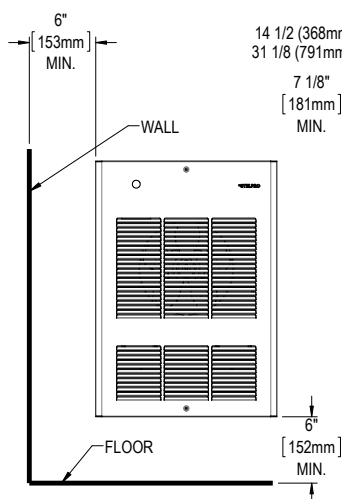
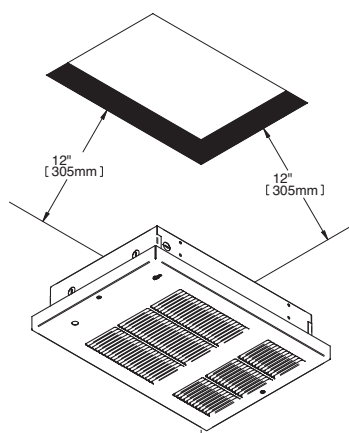

FIG. 1
FIG. 4
1. Recessed and surface installation of WF units (wall mounting) must meet the minimum distances for single and double units (see figures 1 and 2). For CF units (ceiling mounting), must be installed at no less than 12" (305 mm) from adjacent walls and between 8' (244 cm) and 10' (305 cm) from the floor (see figure 4).